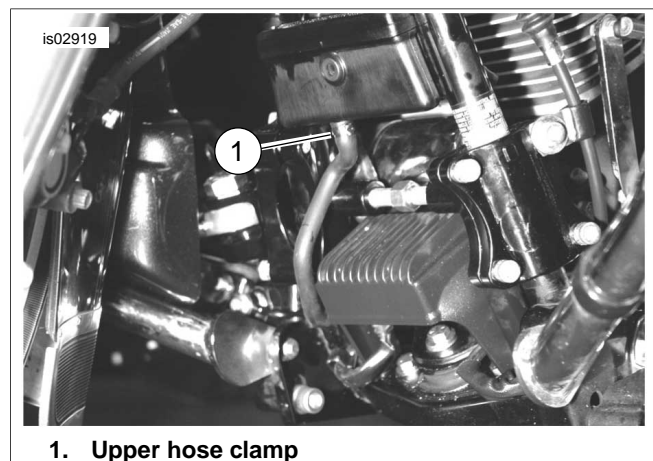

Figure 16. Routing Brake Reservoir Hose
3. Install hose clamps as shown in Figures 16 and 17.